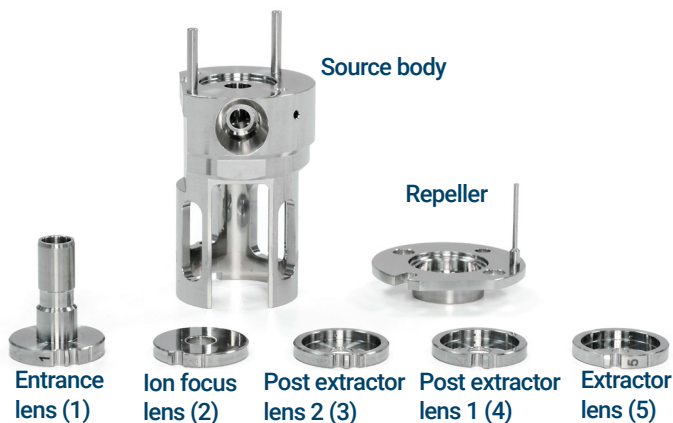

Figure 58 EI HES parts to be cleaned
- 2 Collect the following parts to be cleaned: (See **Figure 58** on page 185.)
- Extractor lens (5)
- Post extractor lens 1 (4)
- Post extractor lens 2 (3)
- Ion focus lens (2)
- Entrance lens (1)